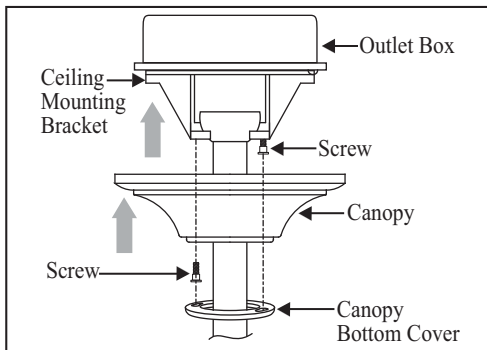

Figure 11
2. Slide the canopy up to mounting bracket and place the key hole on the canopy over the screw on the mounting bracket, turn canopy until it locks in place at the narrow section of the key holes. (Fig. 11)